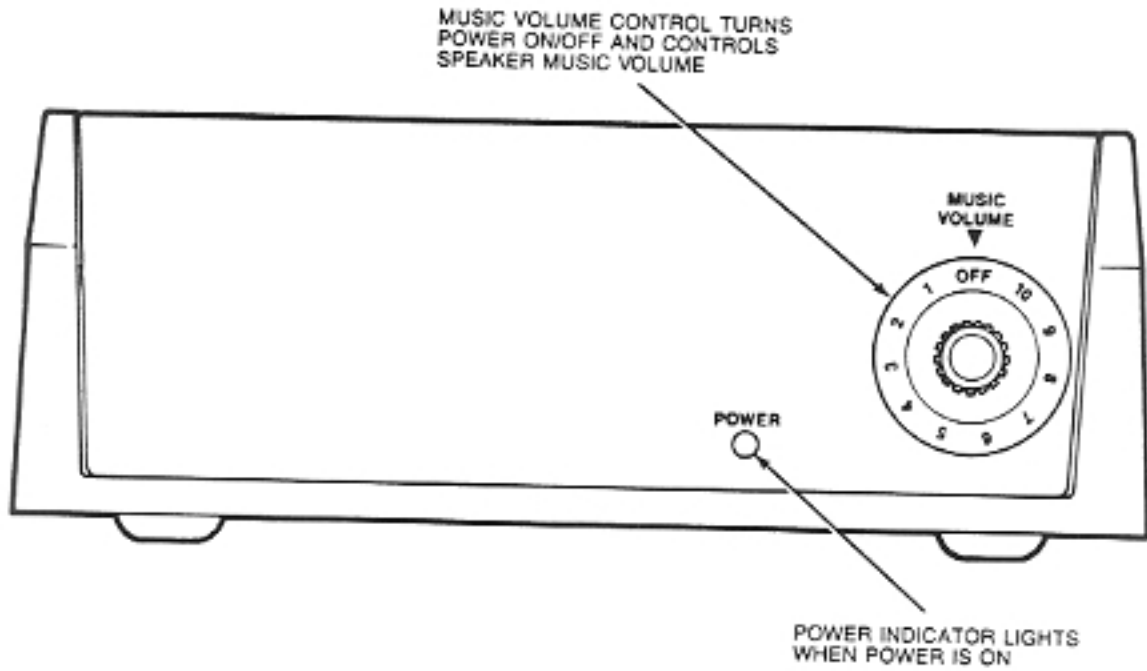

Figure 2-3. PowerMate Controls
3. Turn the MUSIC VOLUME control clockwise (Figure 2-3); you will hear a click and the POWER indicator will come on.